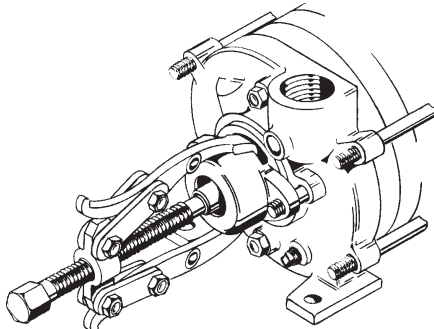

Figure 4-1
3. The bearing arm (#3) may now be removed. A gear puller may be necessary. (refer to figure 4-1) The outboard ball bearing (#24) should now be removed. A gear puller will have to be used for this operation. If the bearing can be removed too easily, a worn bearing surface may be indicated. Replace the shaft and bearing as necessary before reassembly.